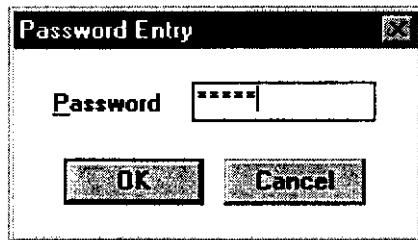

Figure 5-2 Password Entry Dialog Box
4. The **Password Entry** dialog box will appear as shown in Figure 5-2.